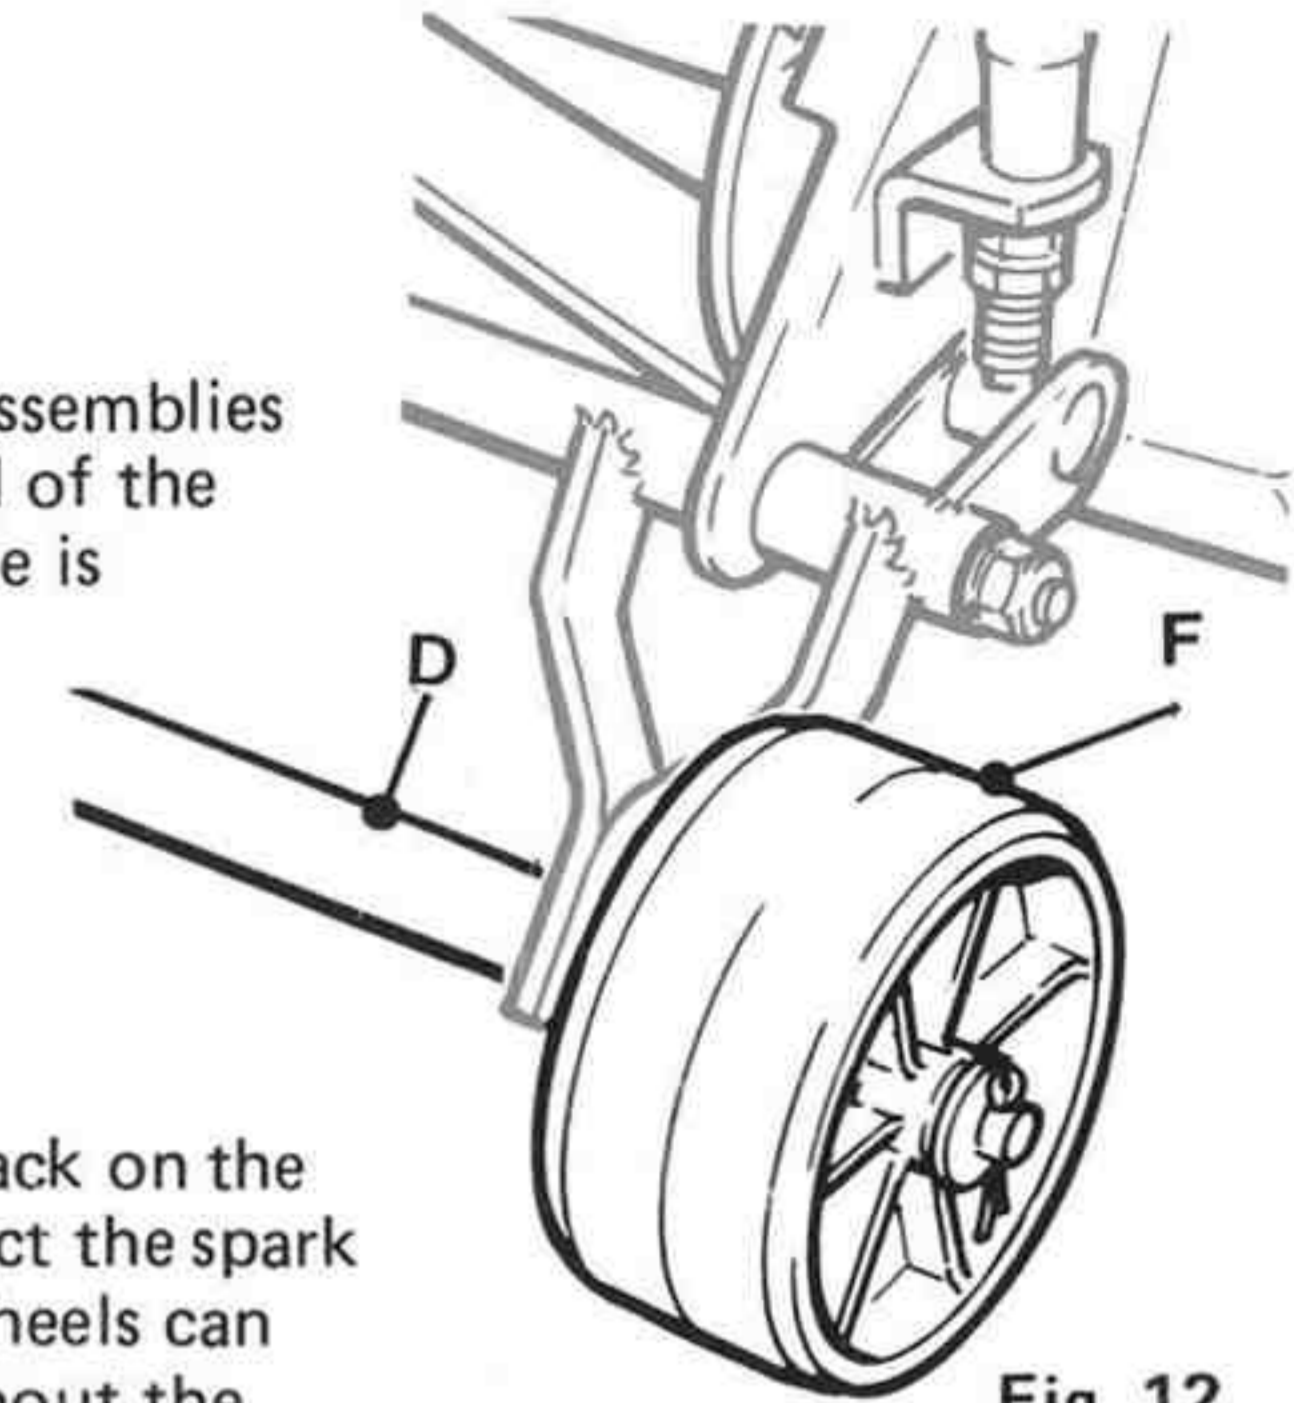

Fig. 12
5 Screw the sidewheel assemblies (F) firmly on to each end of the axle (D), ensuring the axle is seated correctly on the forks (Fig.12).